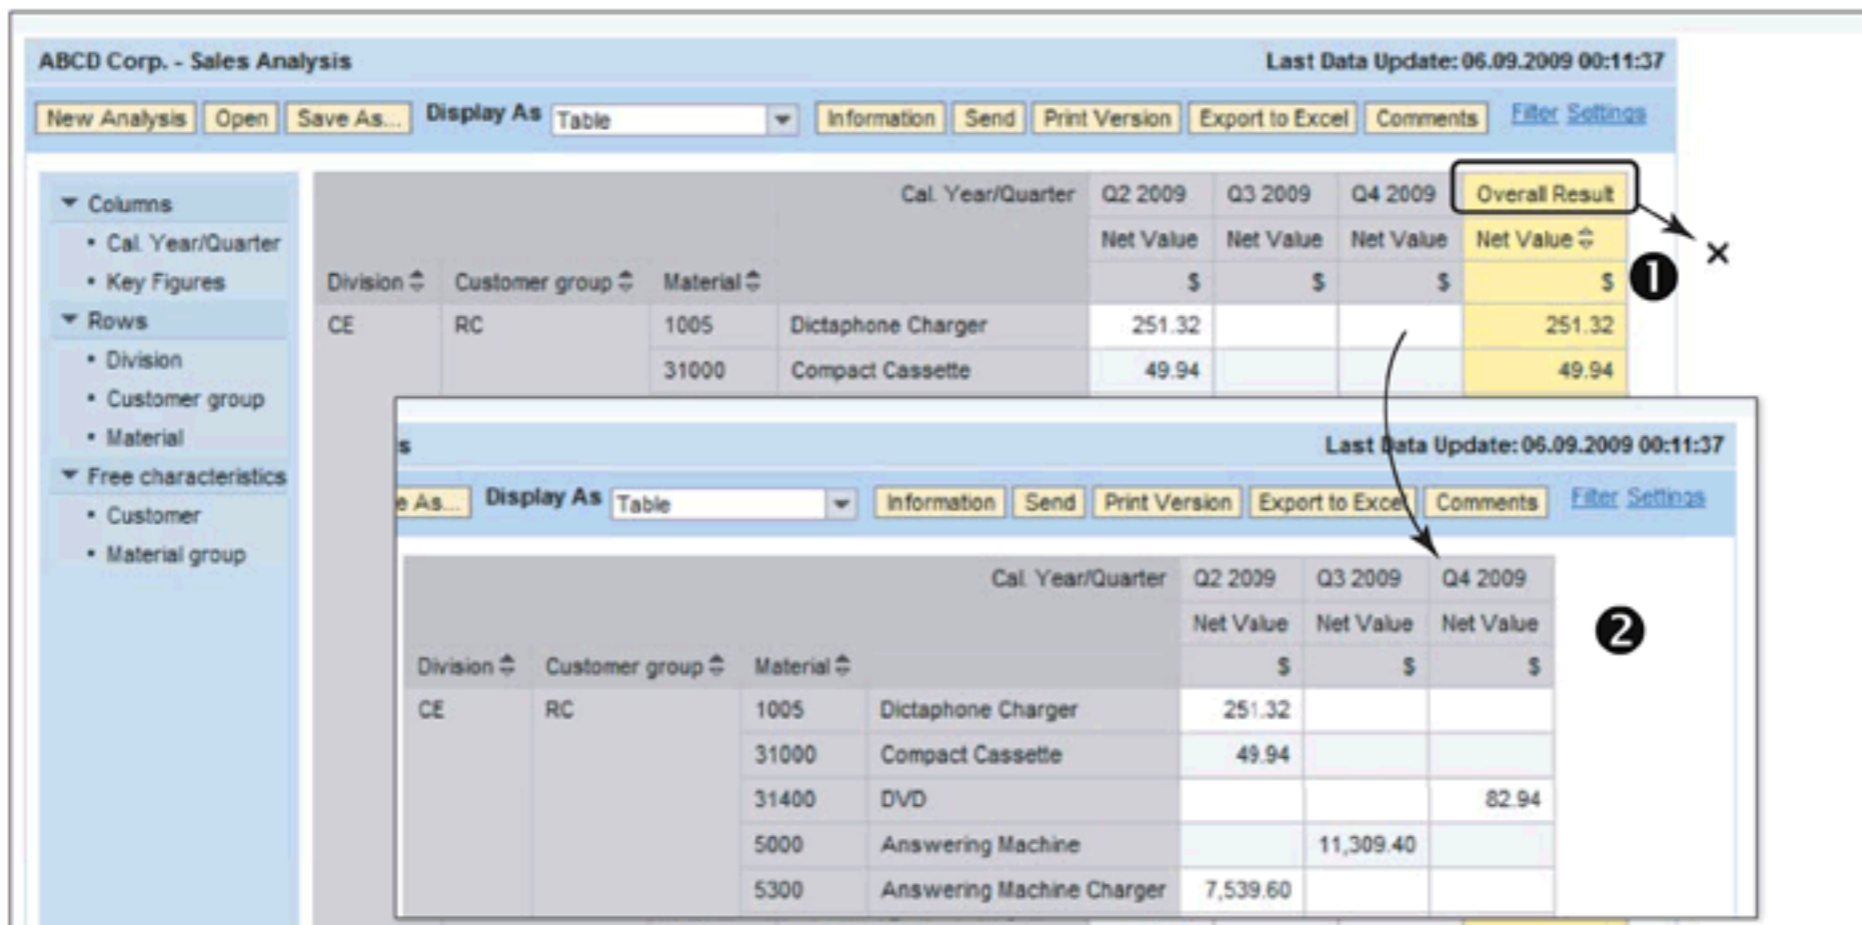

Figure 10.52 Navigation: Remove Result Rows
Using drag and drop, you can also remove the result values from the query result. This can be done by dragging the result row/column out of the result area (1 of Figure 10.52) and that specific result row will be removed from the query result display (2).